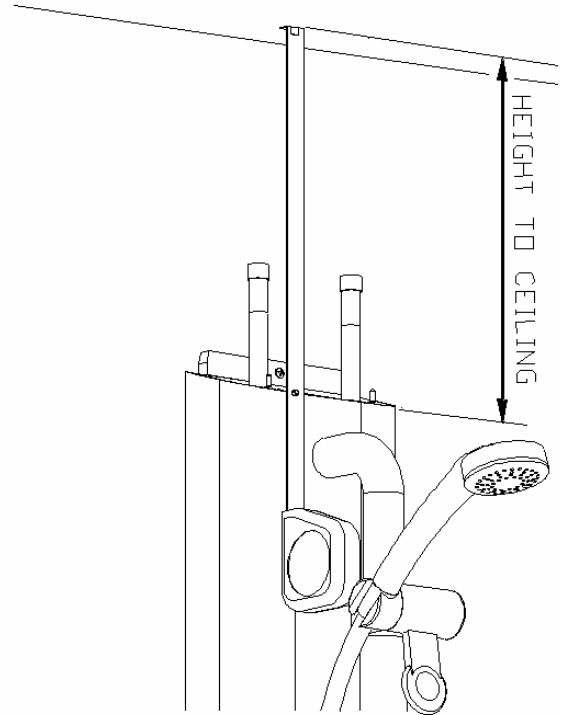

Fig 4.
Slide the Pipe Cover (Item 6) down into place, engaging with both the Alignment Pins (9) and the Gasket (8). If the Pipe Cover is too long to do this, then measure the gap between the ceiling and the panel and cut the square TOP end of the Pipe Cover to make the Pipe Cover 15mm **SHORTER** than the gap using a saw suitable for use with aluminium. **NB. DO NOT CUT THE ANGLED END OF THE PIPE COVER** or it will not fit neatly onto the top of the Shower Panel. See Figs 4 and 5.